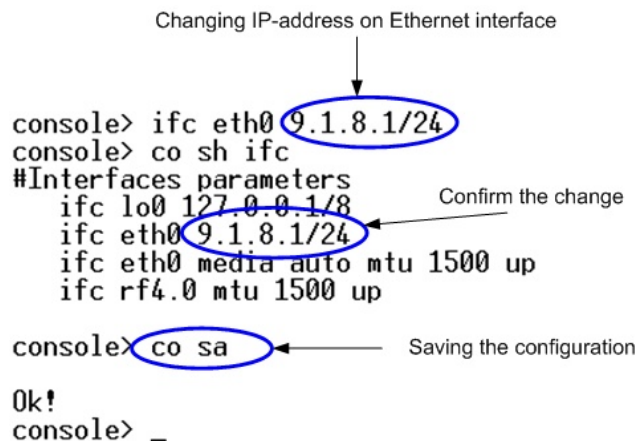

Figure 9. Changing IP-address on `eth0` interface
- In order for your unit to be accessible from your LAN/PC/Laptop via Ethernet, you should configure `eth0` interface IP-address so the unit would allocate in the desired LAN (or accessible from your PC/Laptop Ethernet adapter). You can change this IP-address via "`ifc eth0`" command as shown on figure 9. After changing the IP-address, save the configuration using "`co sa`" command. In the example given the IP-address being assigned to `eth0` interface is `9.1.8.1` with mask length 24 (`255.255.255.0`). In order to check whether your changes were correct, use "`co sh ifc`" command which shows configuration for all interfaces of the unit. Do not forget to save your configuration using "`co sa`" (`config save`) command.